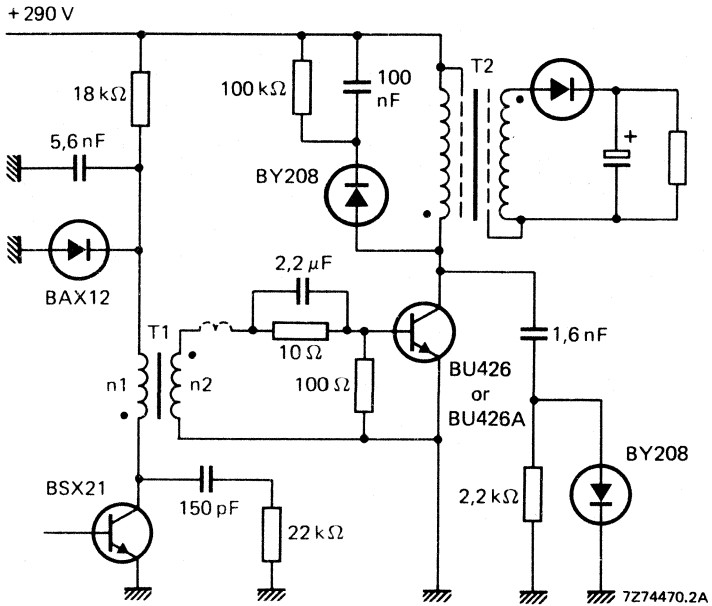

Fig. 19 Practical output circuit of a flyback SMPS of BU426 or BU426A.
All these variables influence the collector dissipation, so that a simple presentation of the design information is only possible if the information is restricted to the main application area of the relevant transistor type. Therefore, as the BU426 or BU426A will mainly be used in flyback converters and the BU433 in forward SMPS, the information of Figs 19, 20, 21 and 22, 23, 24 is based on these applications:
To ensure thermal stability minimum value of T_{amb} in this equation is 40 °C. As indicated, the BU433 will mainly be used in (non-isolated) forward converters, where the turn-off losses are limited by the maximum collector emitter voltage ($\approx 300-350$ V). The rate-of-rise of the voltage during turn-off must be below 1000 V/ μ s. Application of this transistor in low-power flyback converters is also possible, provided that the rate-of-rise is limited to 500 V/ μ s. For the BU426(A) a rate-of-rise of 1000 V/ μ s is permissible. Practical SMPS output circuits for an output power in the order of 180 W are given in Figs 19 and 22. At a collector current of 2,5 A and a base current of 0,25 A in these circuits the following turn-off times can be expected.